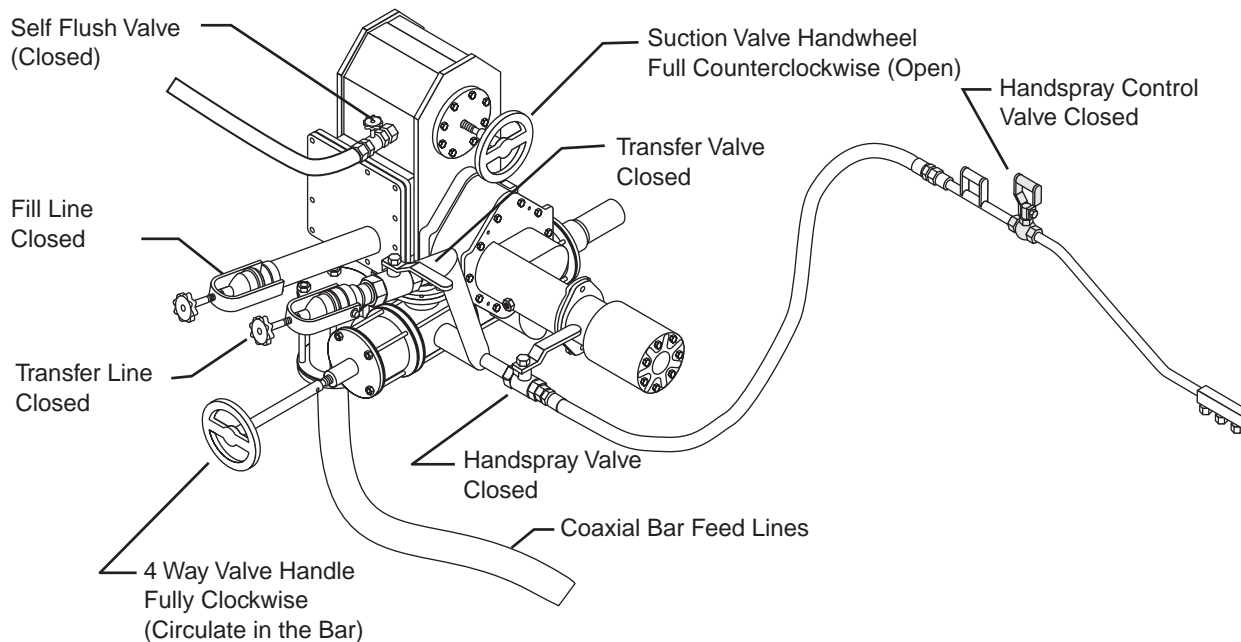

Figure 10. Valve Positions for Suckback
1. Set all of the valve positions (see Figure 10).